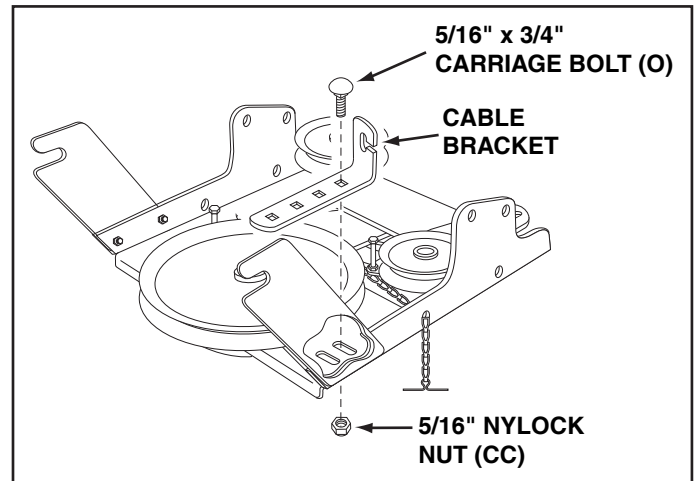

FIGURE 9
STEP 9: (SEE FIGURE 9)
- Attach the cable bracket to the slot shown in the clutch/idler assembly using a 5/16" x 3/4" carriage bolt (O) and a 5/16" nylock nut (CC). Place the bolt in the front hole of the bracket and in the end of the slot closest to the pulley. **Do not tighten yet.**